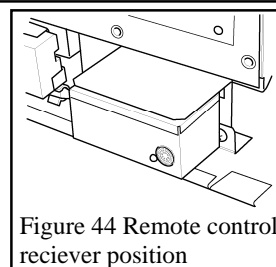

Figure 44 Remote control receiver position
9. Place the remote control receiver on the "Velcro" pad in front of the battery shield. See figure 44.